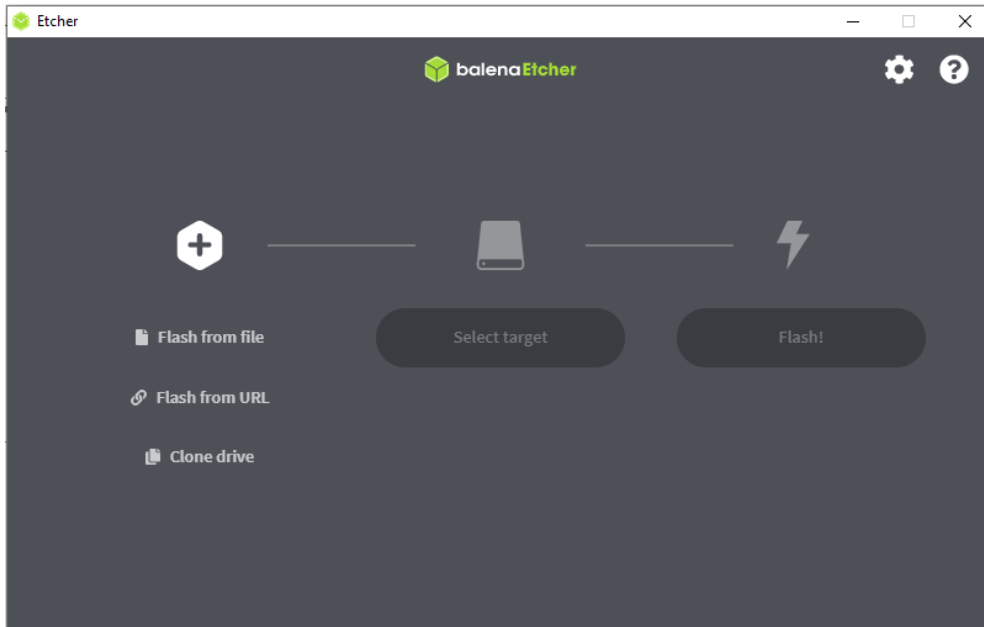

Figure 8. BalenaEtcher Tool
3. Click the *Flash from file* icon and select the Demo image file (QC-IOT4_SDCARD_16GB.img). Then, click *Flash* (see Figure 8).